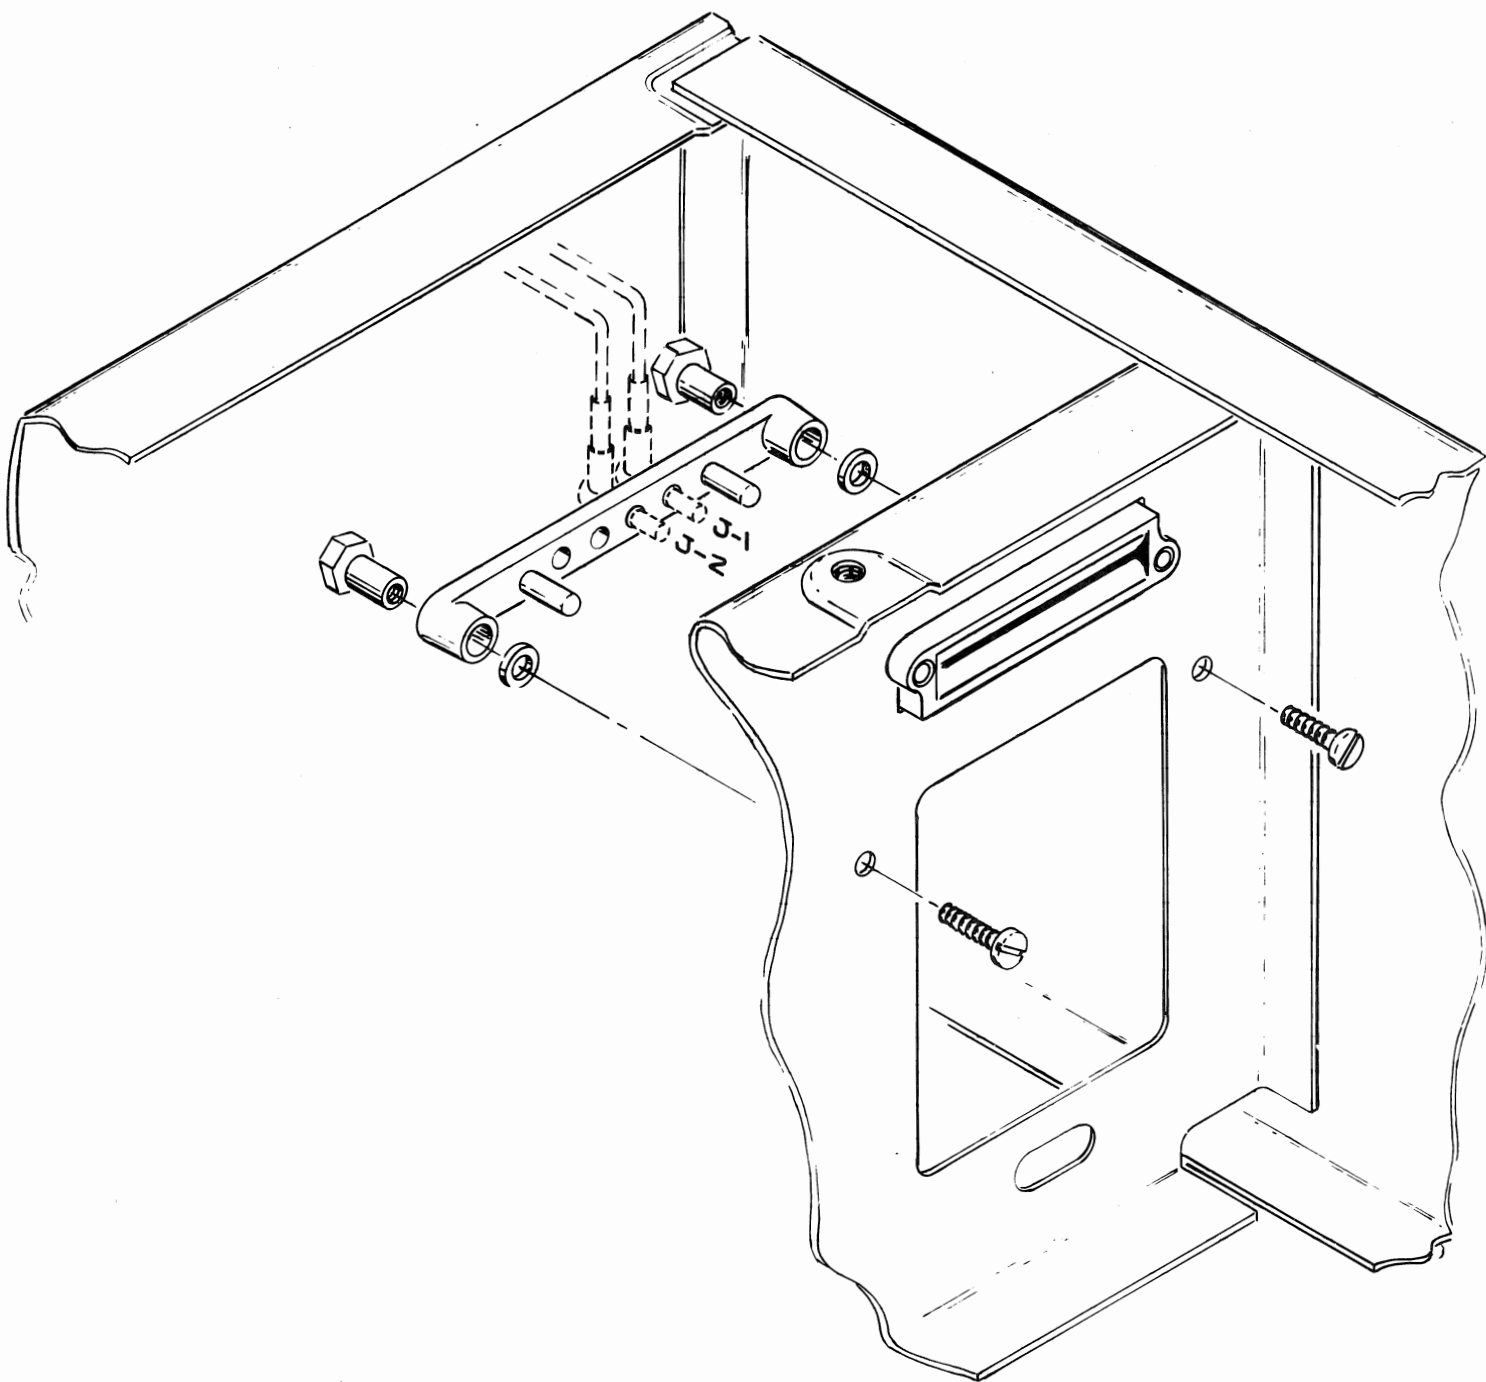

Fig. 6
- ( ) 3. Mount the connector holder (from kit) as indicated in Fig. 6, using the 6-32 x 1/2 PHS screws, spacer nuts, and flat spacers from the kit.
- ( ) 4. Install the small (Cannon) connector from the coax-connector assembly (from kit) in position J-1 or J-2 on the holder (see Fig. 6). Since the proper location for the connector depends upon the plug-in type and specific input connector to be used, refer to the table below to make your choice: